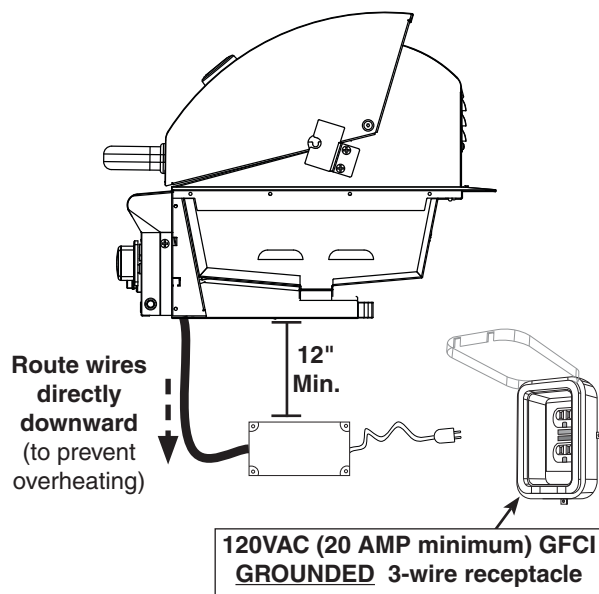

Fig. 23-1 Electrical installation
1. It **MUST** be located at least 12 inches below the bottom of the grill (see Fig. 23-1).
2. The wire extension that exits from the control panel **MUST** be routed directly downward. This will prevent overheating. **DO NOT** route the wire extension below the grill (see Fig. 23-1).
3. Mount the power supply box to the inside of the enclosure using appropriate hardware for your enclosure (see Fig. 23-1).
4. Connect the cord coming from the power supply to a **120VAC (15 AMP minimum) GFCI GROUNDED 3-wire receptacle** (see Fig. 23-1). The GFCI receptacle must be a WEATHER-PROOF IN-USE COVERED RECEPTACLE.